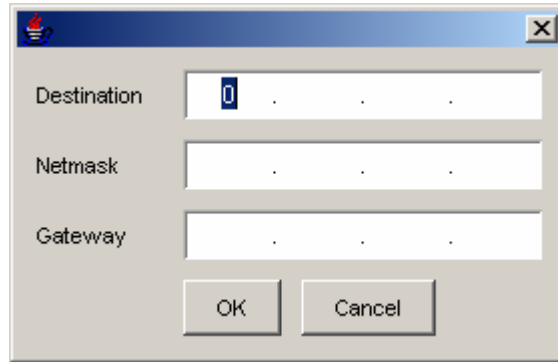

Figure 5-37. Adding a Route Table
- To add a route to the routing table, click the **Add** button. Then, when the dialog box in Figure 5-37 appears, complete the fields and click **OK**. As you add route entries, record the information in Appendix B.